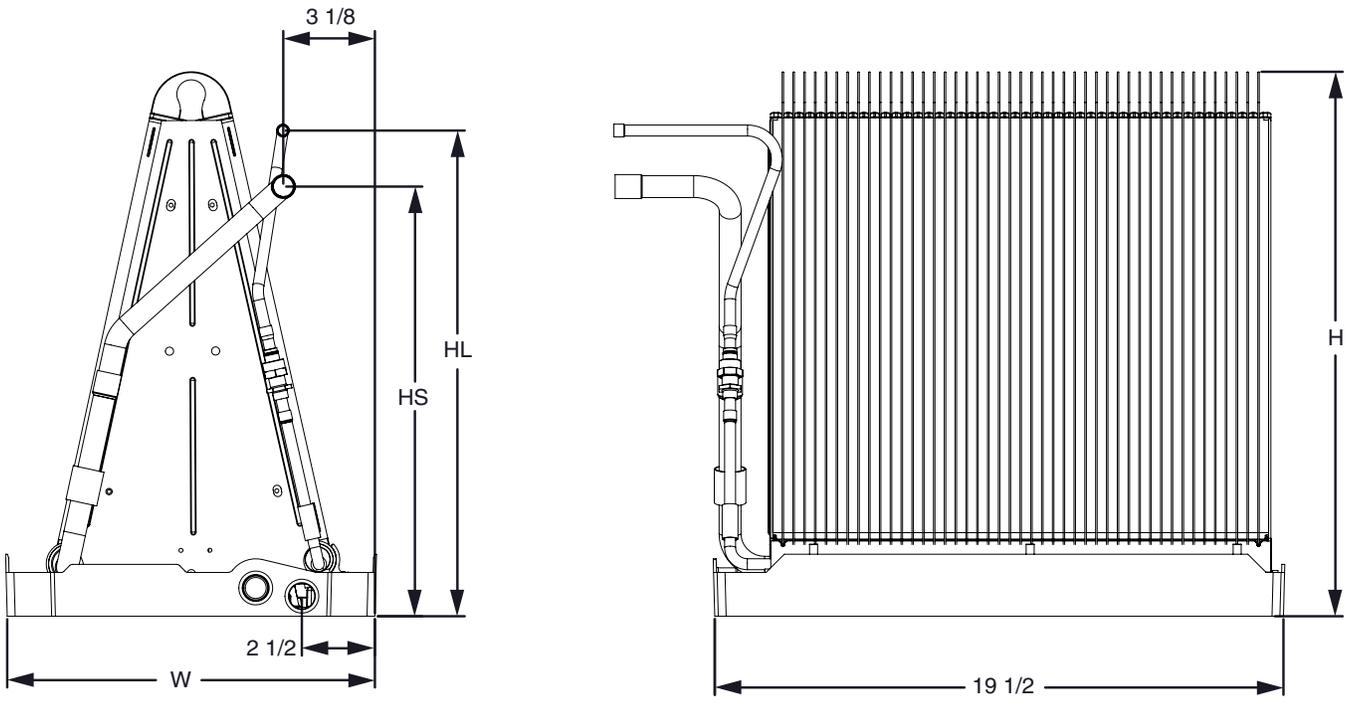

Figure 5. C7 Coil Dimensions (without TXV)
2. Install the coil case on the furnace air discharge opening and level it as needed to ensure proper condensate drainage. If needed, make a plate to adapt the coil to the air discharge opening. See Figure 5 (page 6) for coil dimensions.